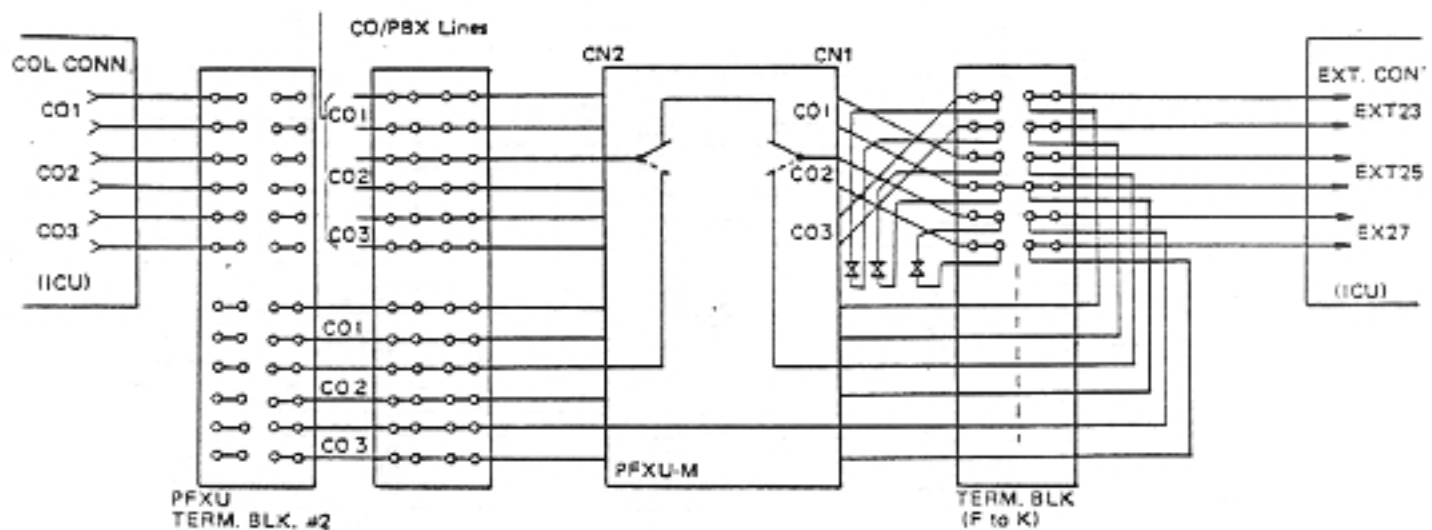

Figure 3.7.2.3(3)
(3) Purposes of PFXU TERM. BLK.
Figure 3.7.2.3(3) shows an example of power failure transfer in which CO1, CO2, and CO3 are transferred to extensions 25, 27, and 23. The CO/PBX lines are connected to the PFXU-M via PFXU TERM. BLK. #1, CN2 in the same order of the ICU COL CONN CO/PBX line numbers. CN1 and the terminals on TERM. BLK. F through K corresponding to the extensions are freely selected and connected to them.